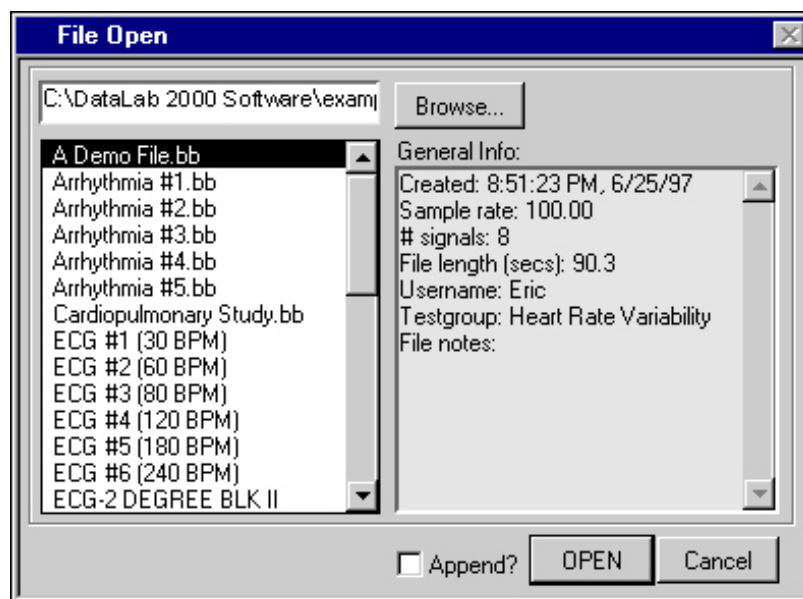

Figure B-14. Selecting a Data File in the File Open Dialog Box
3. Figure B-14 shows the File Open dialog box, which lists all the files in the `\datalab2000software\examples` directory. The example file `A demo File.bb` contains eight signals of physiological data, two of which are variable ECG waveforms. Open this example file by clicking on the file and then clicking on the **OPEN** button which returns you to the Analysis view and displays the first two signals in the file on the